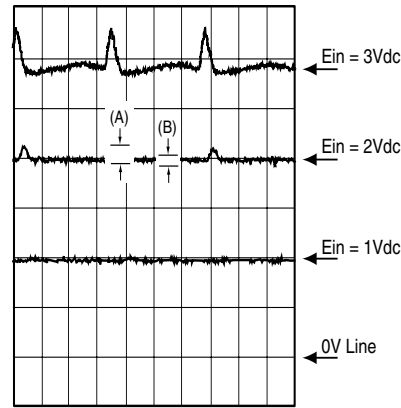
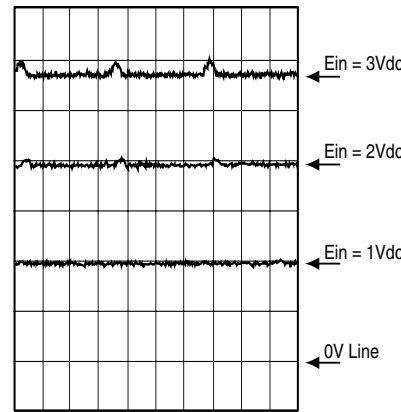
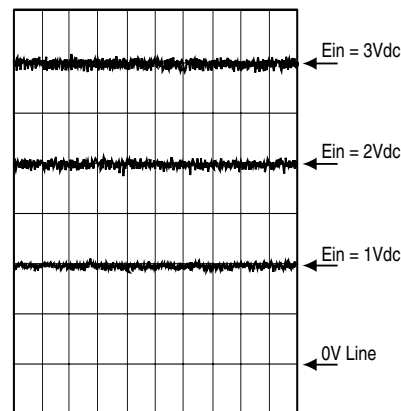

FIGURE 6A. MEASURED LOAD WAVEFORM.
FIGURE 6B. ADDING A 10,000 μF IN PARALLEL WITH C1 LOWERS OUTPUT RIPPLE, ESPECIALLY AT HIGH CURRENT LEVELS.
FIGURE 6C. WORKS WITH A WIDE RANGE OF LOADS. WITH R1 OPEN, HIGH FREQUENCY RIPPLE IS HIGHER BECAUSE OUTPUT LC FILTER IS UN-TERMINATED.
Actual oscilloscope waveforms are shown in Figure 6a. The three load waveforms, from bottom to top, are respectively with inputs at 1 Vdc, 2 Vdc and 3 Vdc. There are two groups of ripple in each waveform. The ripple marked (A) is caused by the 60 Hz, 115 Vac power source, and can be lowered by increasing the capacitance for C1. Figure 6b shows the improved 60 Hz ripple by paralleling another 10,000 μF with C1 of 1000 μF . The improvement is especially noticeable with $E_{in} = 3$ Vdc. The high frequency ripple marked (B) in Figure 6a is caused by insufficient attenuation of the 22.5 KHz PWM pulse train by the three pole LC filter made up of L1, L2 and C4 in Figure 3. You can lower ripple (B) by increasing the number of poles for the LC filter. Figure 6c is the same as Figure 6a except R1 becomes open circuit. Note that high frequency ripples are noticeably higher because the LC filter no longer has a balanced load and its frequency response is no longer maximally flat. But, the 60 Hz ripple disappears because it is proportional to the load current.
This AC/DC power supply was designed with a gain of 20V/V. With $E_{in} = 1$ Vdc, E_{out} should be 20 Vdc and this is what Figure 6a shows in its bottom waveform. In the top waveform where $E_{in} = 3$ Vdc, E_{out} should be 60 Vdc while Figure 6a shows about 58 Vdc. The error is caused by the winding resistances of the inductors L1 and L2; and the error is higher at high output voltage and high current levels. You can eliminate this error by moving the voltage feedback point from the output of SA14 to the load, positive terminal of R1 (Figure 3). You will get better load voltage accuracy but at the expense of very restricted load variation. For example, if R1 becomes an open circuit, the LC filter will resonate near the corner frequency of 2.25 KHz. With voltage feedback taken at the positive terminal of R1, the whole feedback circuit will become unstable. On the other hand, if voltage feedback is taken from SA14's output, the load R1 and its associated LC filter do not affect loop stability.